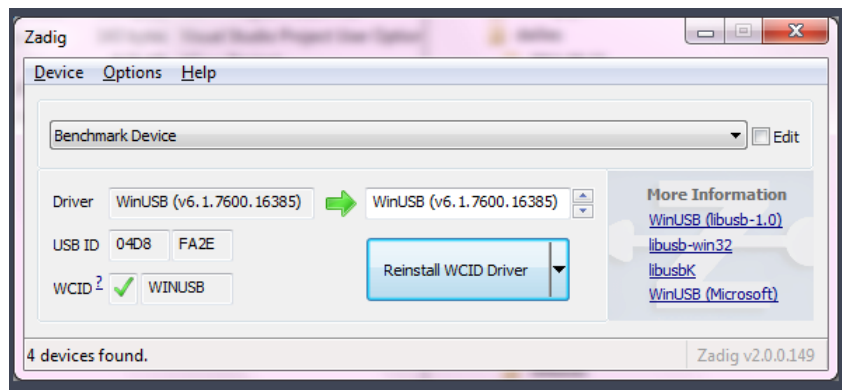

Figure 1: zadig main window
- 1. libusb installation:** An easy way to install libusb backend on windows is Zadig. Download the latest version of Zadig from <https://zadig.akeo.ie/> Run zadig.exe and you should get a dialog as shown in Fig1.